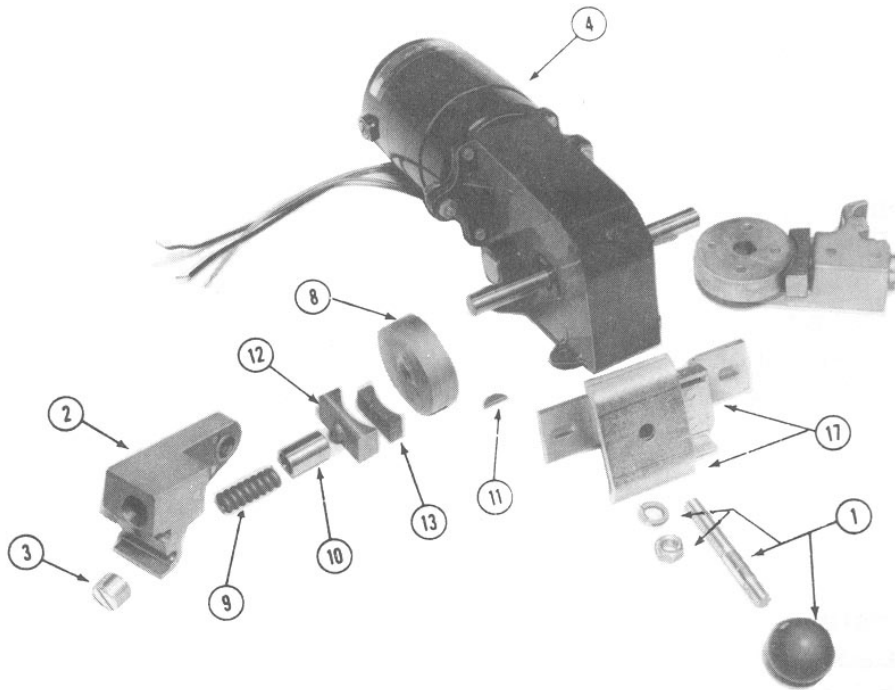

Figure 1. Operating Mechanism Parts.
The operating mechanism, pictured in Figure 1 (page 13), is used in Styles 2, 3 and T-200 transfer switches. The motor (4) is a universal type, reversible motor and is shipped as a complete component including the gearbox. The gearbox is a sealed unit, which should never require maintenance or attention. Because of the wide range of molded case switches used on Lake Shore Electric Transfer Switches, if motor replacement is necessary, please specify the serial number and model number of the transfer switch.